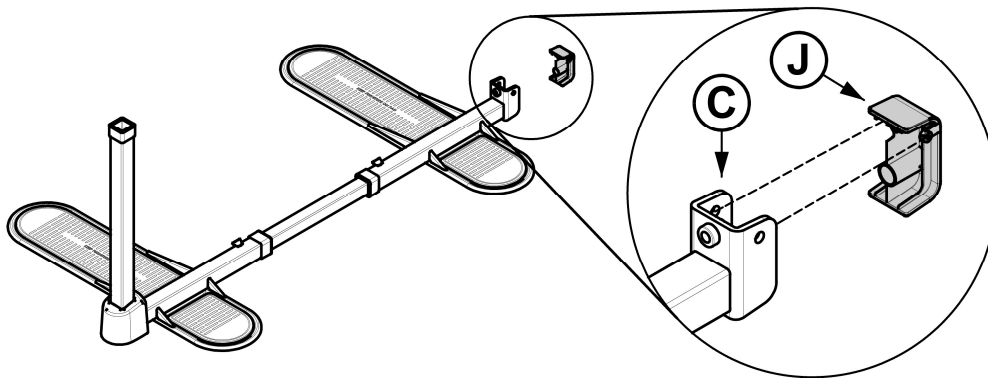

FIGURE 5
- Snap Rear Cap **J** into place on the side holes of of Rear Foot **C** as shown in *FIGURE 5*.